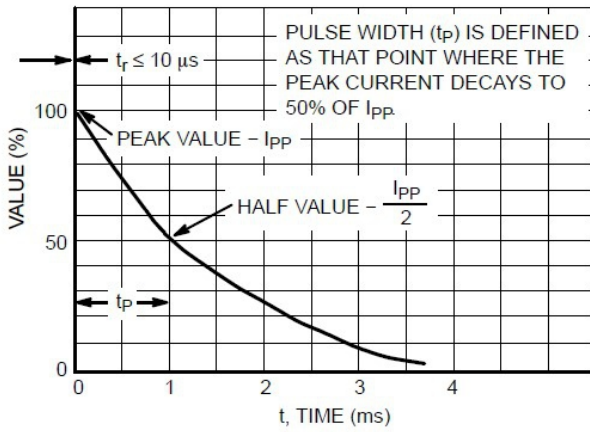

Figure 6. Pulse Waveform
- ◇ Peak power 24 or 40 Watts @ 1.0ms (unidirectional) per Figure 6 Waveform